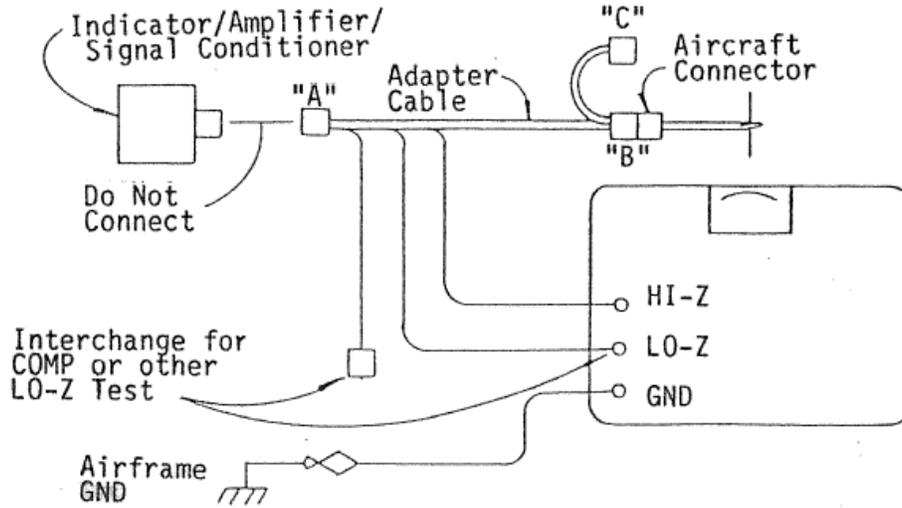
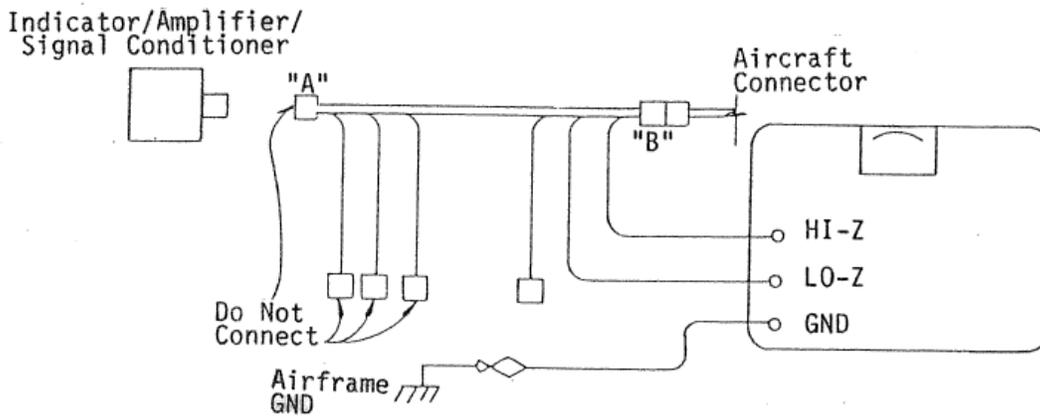

Figure 6 INSULATION TEST, CONFIGURATION #1
Figure 7 INSULATION TEST, CONFIGURATION #2
- (1) Connect the appropriate adapter cable or harness receptacle to the aircraft plug(s) (Refer to Figure 6 or Figure 7, next page).
- (2) From the aircraft end of the adapter cable, connect the HI-Z connector to the Test Set's HI-Z INSULATION receptacle and the LO-Z TANK connector to the Test Set's LO-Z INSULATION receptacle.